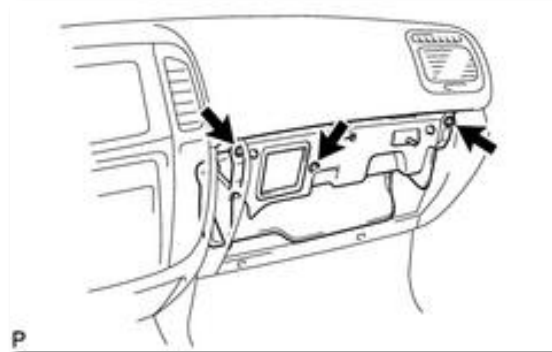

Figure 2 – Remove No.2 Finish Panel
- 2) Remove the 2 screws and remove the Glove Box Compartment Door. There is one screw and 3 clips holding it up. See Figure 2.